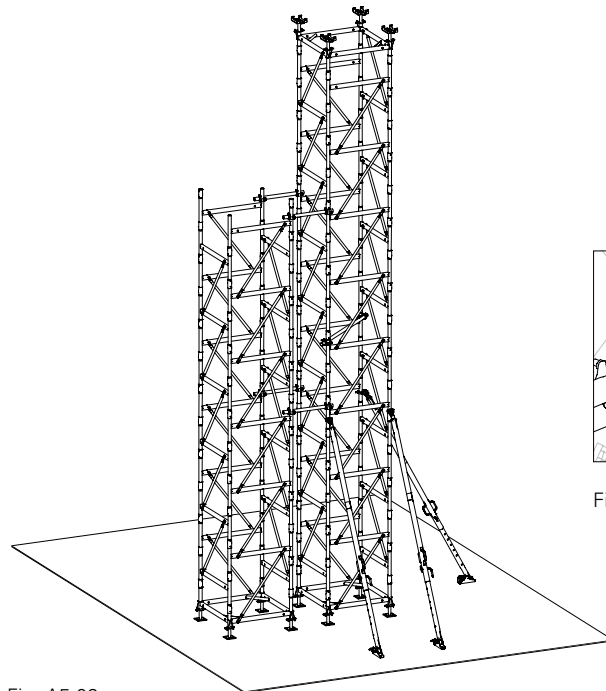

Fig. A5.02
2. Connect Stacking Towers with scaffold tubes (11). (Fig. A5.02 + A5.02a)